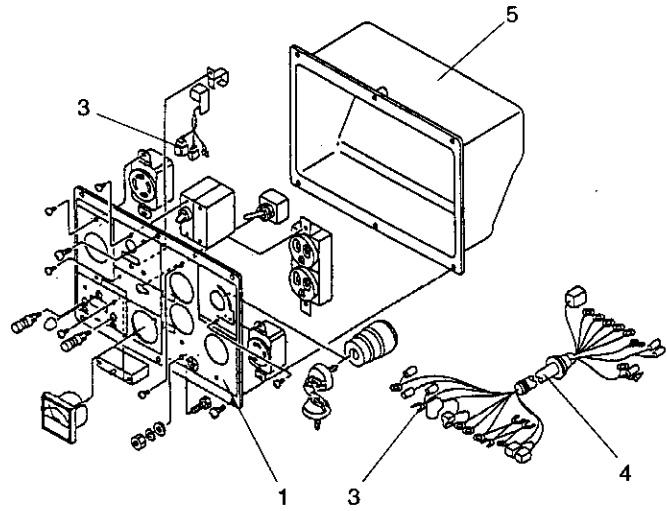

Fig. 5.2.3 Control panel unit components
- Fig. 5.2.3 illustrates the scope of work and parts configuration.